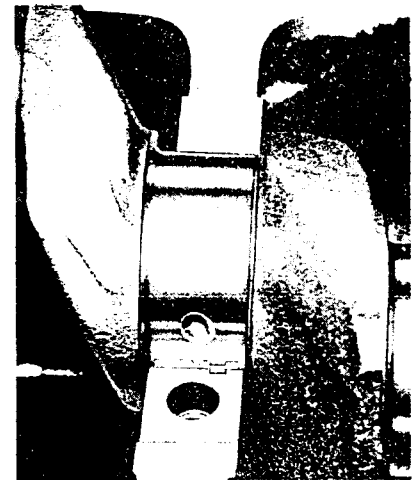

Figure 8-1-44
2. Place a piece of gauging plastic the full width of the bearing (parallel to the crankshaft) on the journal (see Figure 8-1-44).